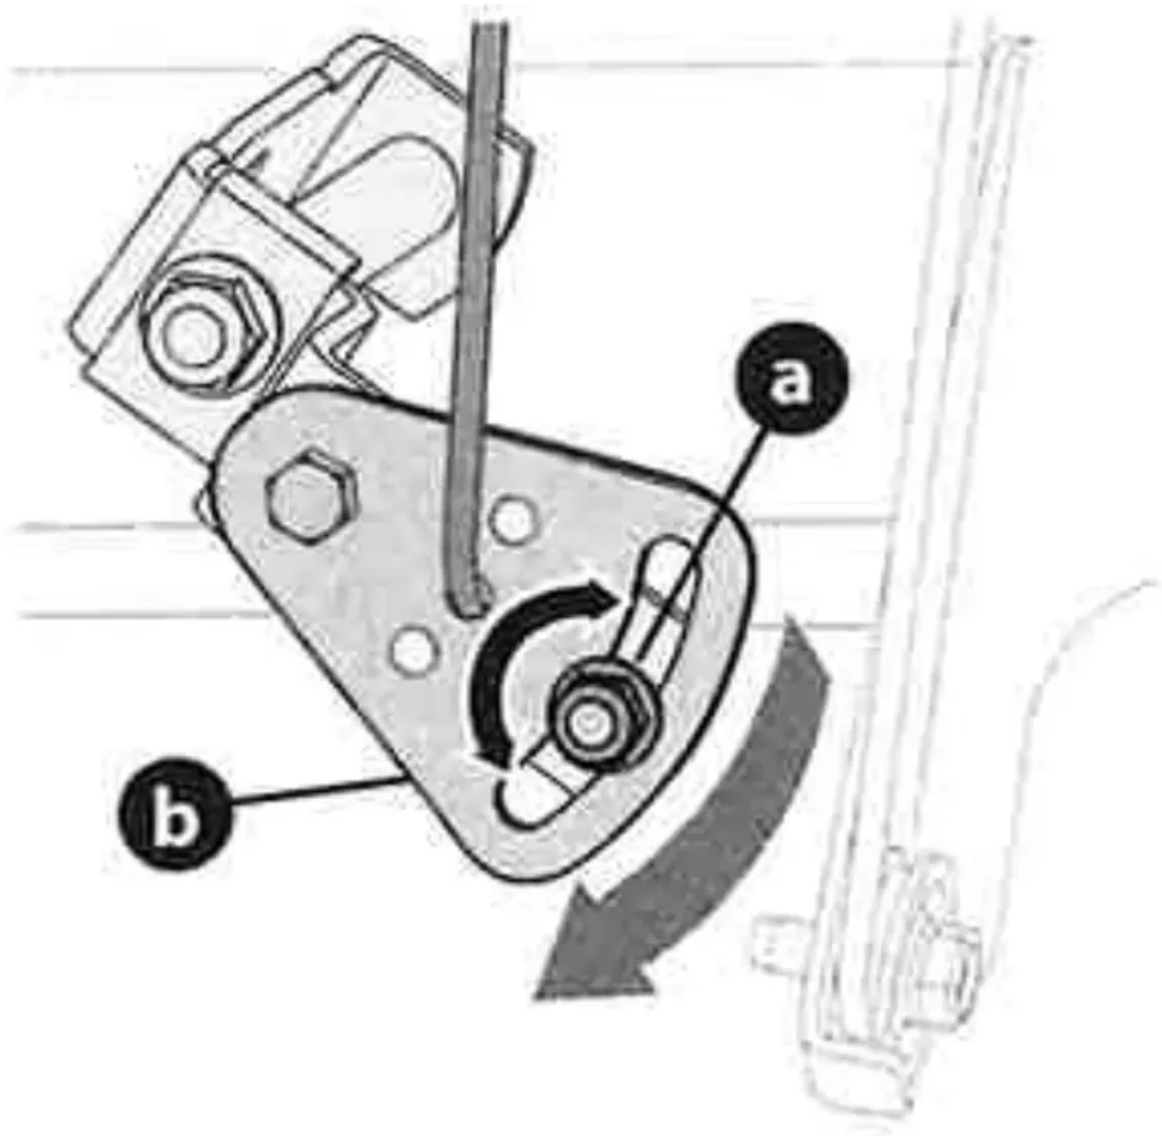

Figure 55
2. Loosen hex nut (a) on shift cable index bracket (b) (Figure 55).